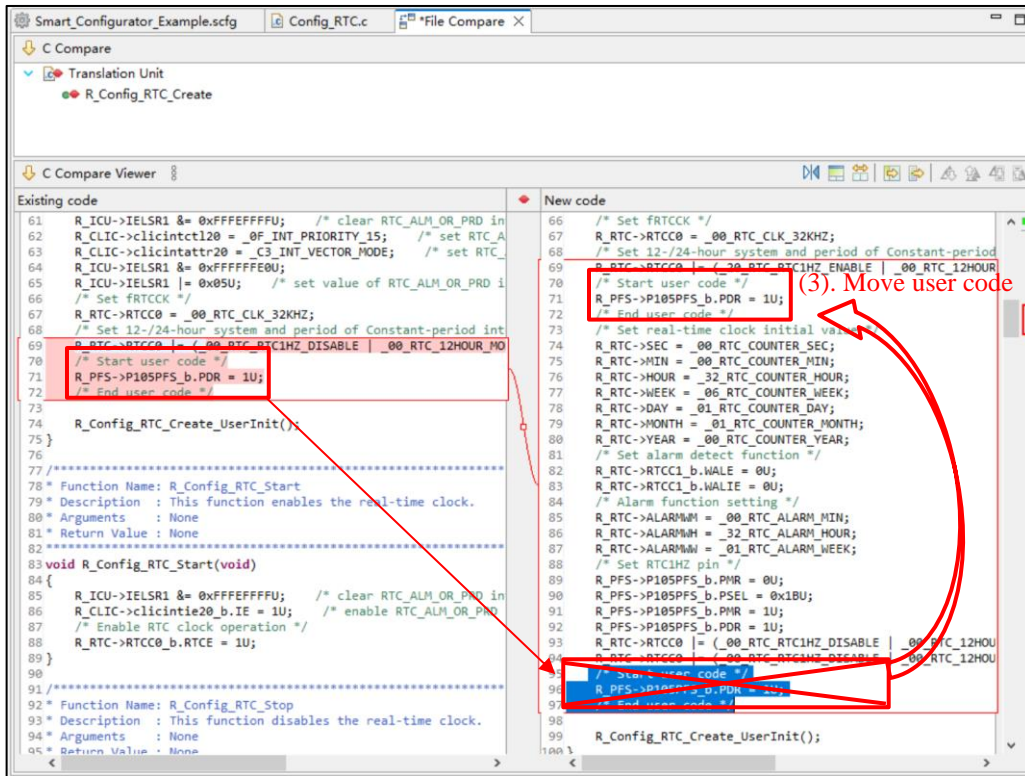

Figure 11-5 Code after Applying “Copy Current Change from Left to Right”
- (3) Move user codes to the place you want to use (Figure 11-5 Code after Applying “Copy Current Change from Left to Right”)